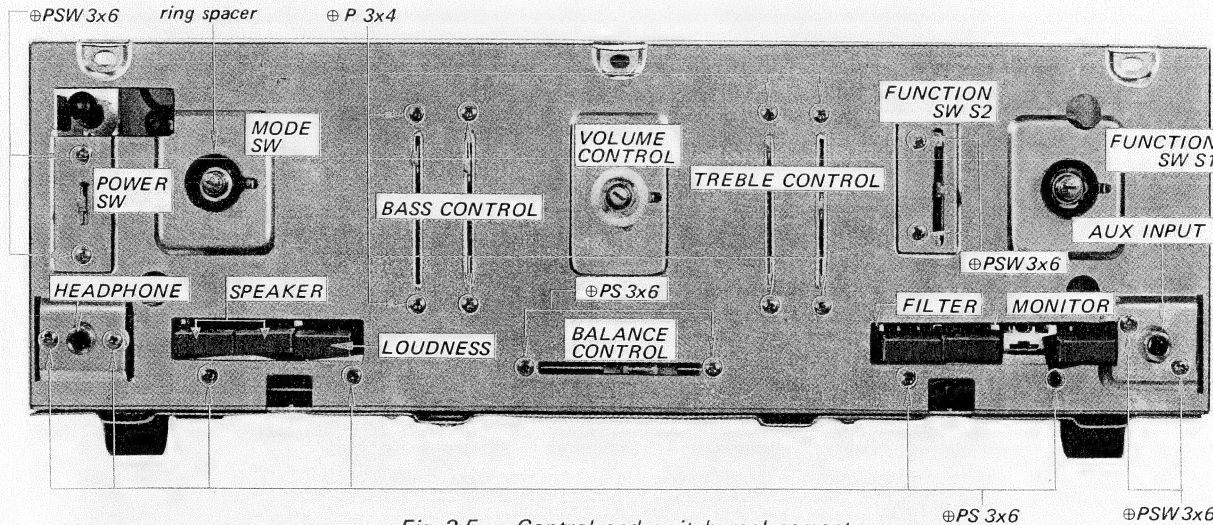

Fig. 2-5 Control and switch replacement
1. Remove the screws (⊕PSW3x6) securing the switch or control to the front subchassis as shown in Fig. 2-5.
2. Remove the two screws (\oplus PS3 \times 6) securing the printed circuit board to the front subchassis. See Fig. 2-5.
the control to the front subchassis as shown in Fig. 2-5.